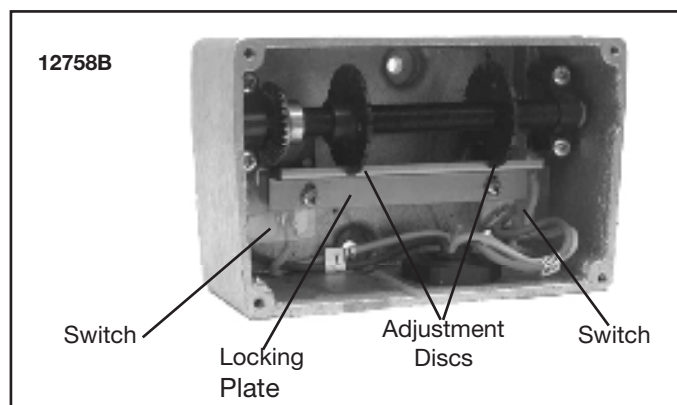

Figure 7-2. Screw-Type Limit Switch Adjustment (Wires Not Shown for Clarity.)
- b) **Procedure.** Remove load from the hook. To disconnect the geared limit switch, refer to Figure 7-2. Remove the limit switch cover then loosen the two (2) screws holding the locking plate in place. Allow the locking plate to slide down and disengage from the adjustment discs. Do not rotate the adjustment discs.
Position the lower block three inches (3") below the point where the block operated limit switch is activated. The geared limit switch shall be reconnected by sliding the locking plate back into position ensuring slots on adjustment discs are fully engaged and tightening locking plate screws to 4 in-lbs. (See Figure 7-2). The geared limit switch must then be tested.
circuit and one for the lowering circuit. The switch assembly must be wired in accordance with the appropriate wiring diagram, which is shipped with the hoist. Instructions for adjusting limit switch are inside cover and are repeated below (see Figure 7-2).